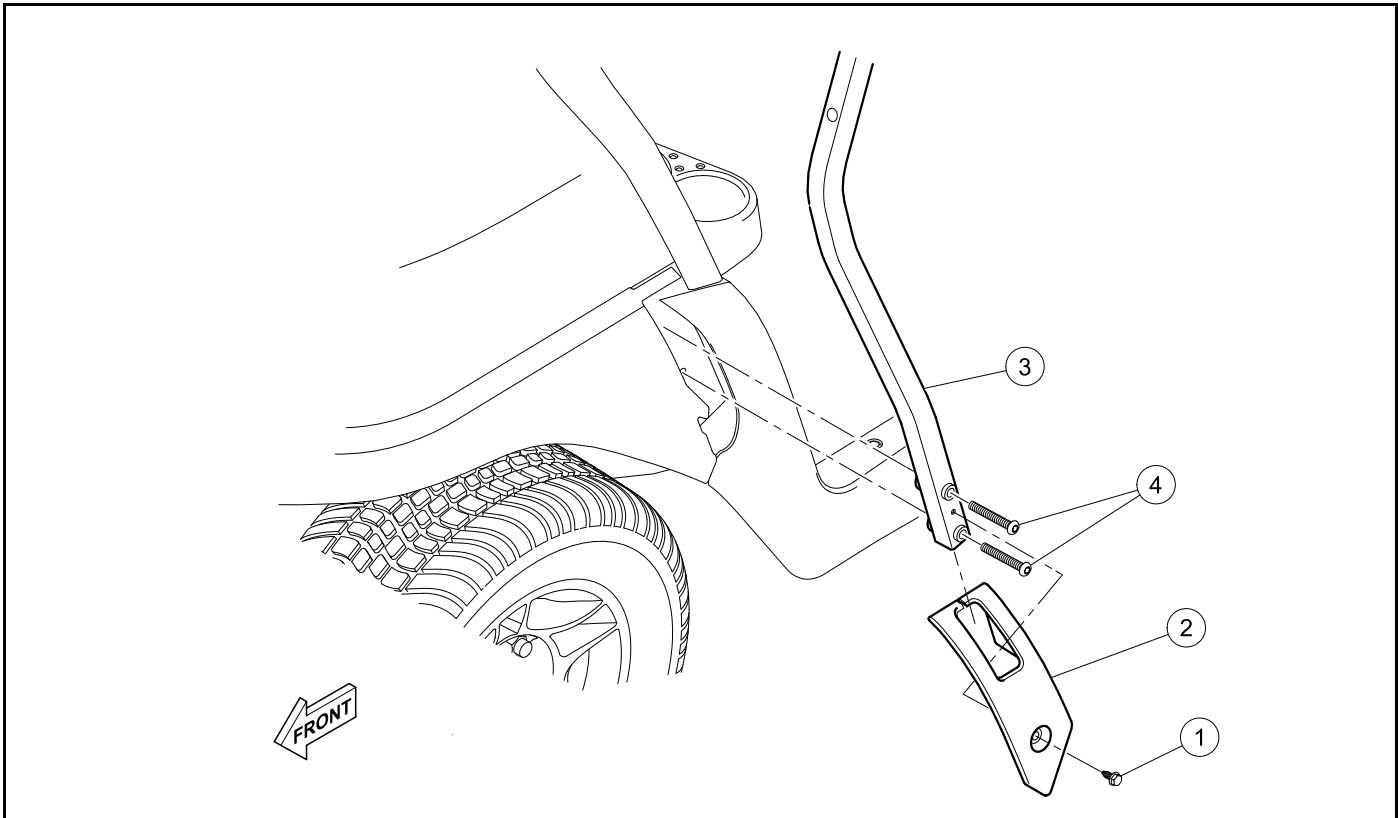

Figure 4-22 Front Canopy Strut Removal
2. Remove the screw (1) (**Figure 4-22**).
3. Slide the front canopy strut cover (2) up the front canopy strut (3).
4. Remove the screws (4) and the front canopy strut.